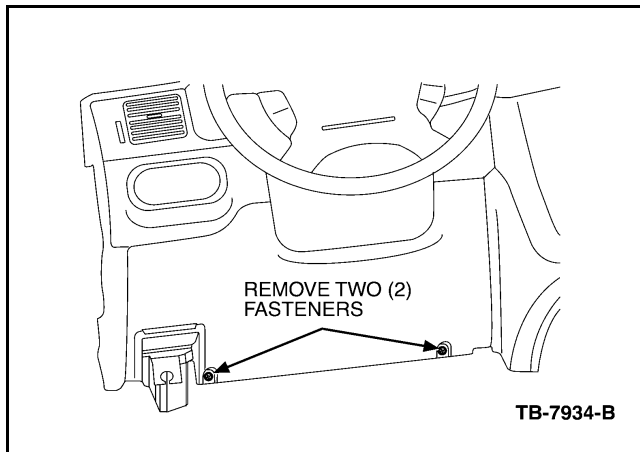

Figure 1 - Article 04-22-12
1. Remove the two (2) fasteners supporting the instrument panel knee bolster from below the steering column and remove the cover (Figure 1).